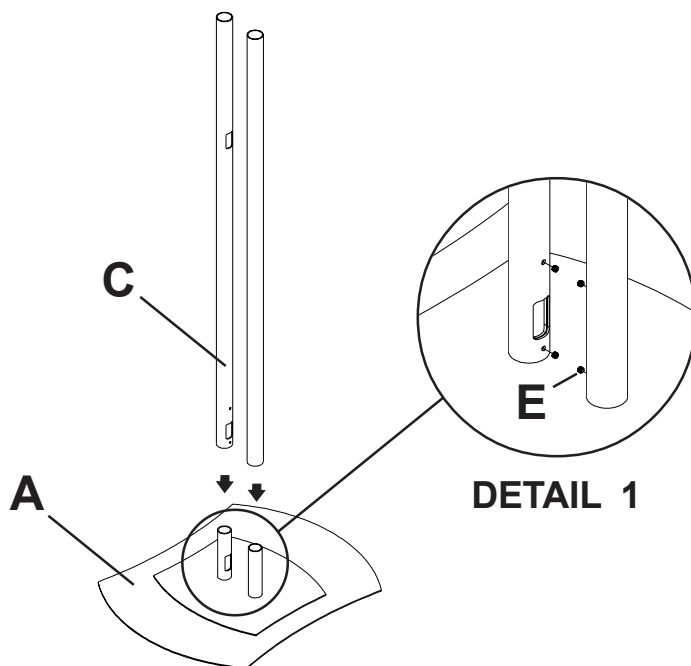

fig 2
- 2** Slide two main tubes (**C**) onto base (**A**) and secure using four set screws (**E**) as shown in figure 2 and detail 1. Tighten screws using 4 mm allen wrench (**O**).